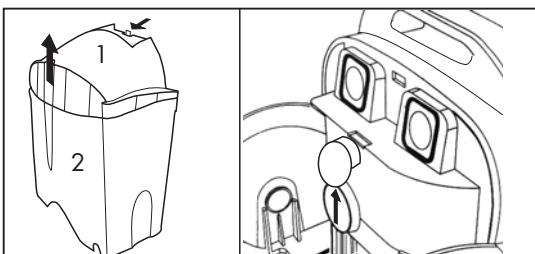

Fig. 12
- Remove the wastewater container (2) and the cover (1) from the appliance. Fig. 12
- Remove the blowing cap. Fig. 12 bis